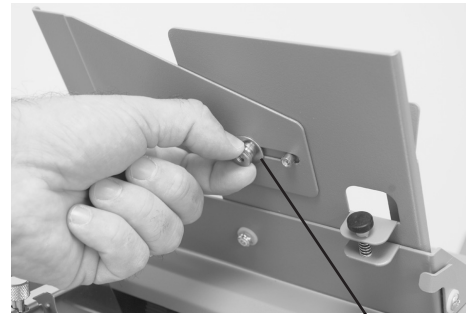

Fig. 9a
1. Adjust the side guides on the multi-sheet feeder for the proper paper size. Loosen the brass thumb screw, adjust the guides to fit the paper width and re-tighten the thumbscrew (Fig 9a).